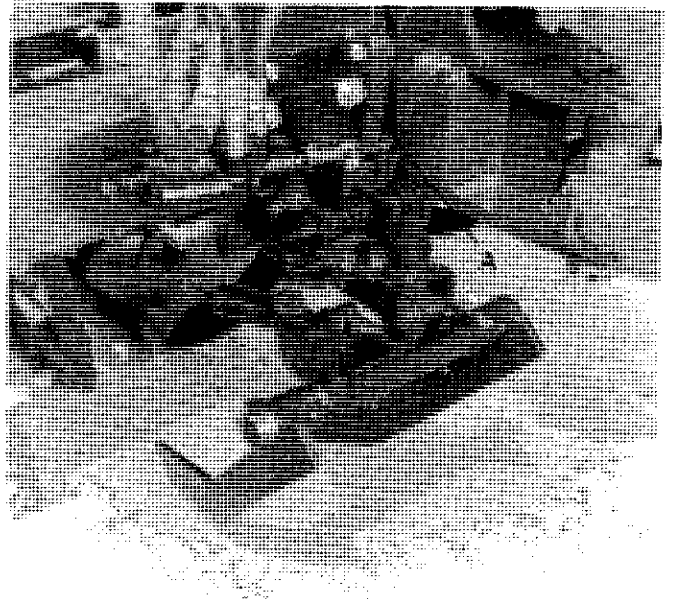

FIGURE 60 - ROW FINDER MOUNTING
Use four (4)  $\frac{1}{2}$ " x 1  $\frac{3}{4}$ " hex bolts (A), four (4)  $\frac{1}{2}$ " lock washers and four (4)  $\frac{1}{2}$ " nuts to mount row finder assembly to mounting bracket on first strut to right-hand side of hitch (see figure 60).